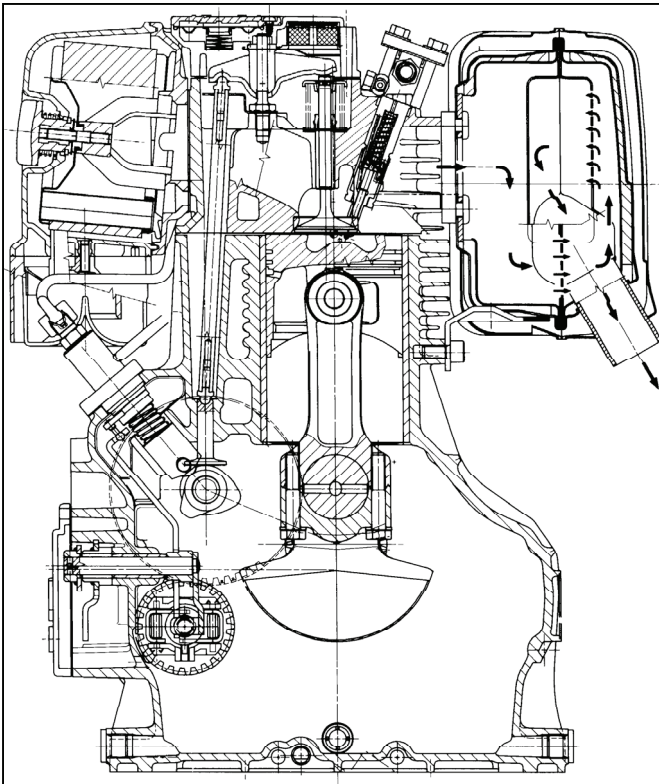

Figure 9
8.1.1 Engine Cutaway (figures 9 & 10)